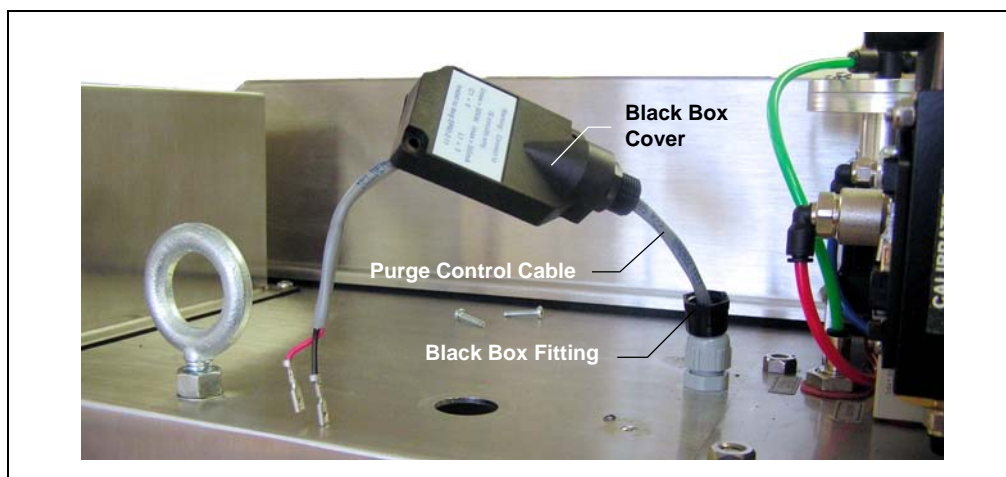

Figure D-5. Install the Purge Control Cable
8. Thread the purge control cable through the fitting on the black box cover (see Figure D-5).